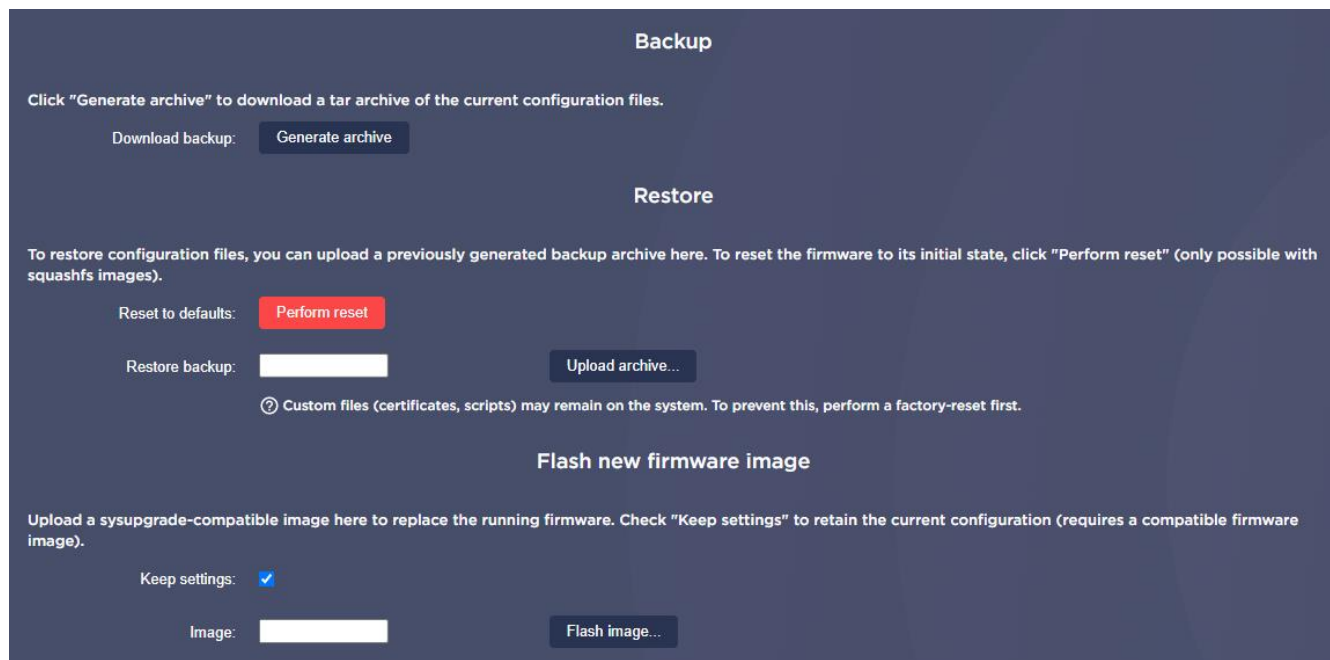

Figure 29 – “System” – “Backup/Flash Firmware” Screen
2. In the "System" – "Backup/Flash Firmware" tab, the User shall upload the unpacked firmware file by clicking on the "Select file" button at the bottom of the screen (See Figure 29 above).